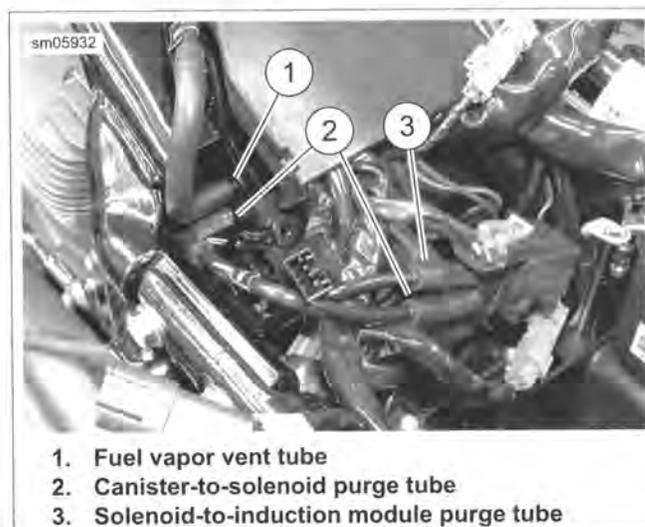

Figure 4-47. Purge Tube Connections
2. See Figure 4-47. Remove purge tube (2) from fitting of purge solenoid and canister.
3. See Figure 4-47. Remove purge tube (3) from purge solenoid.
2. See Figure 4-47. Route purge tube under frame crossmember and install on upper fitting (3) of purge solenoid.